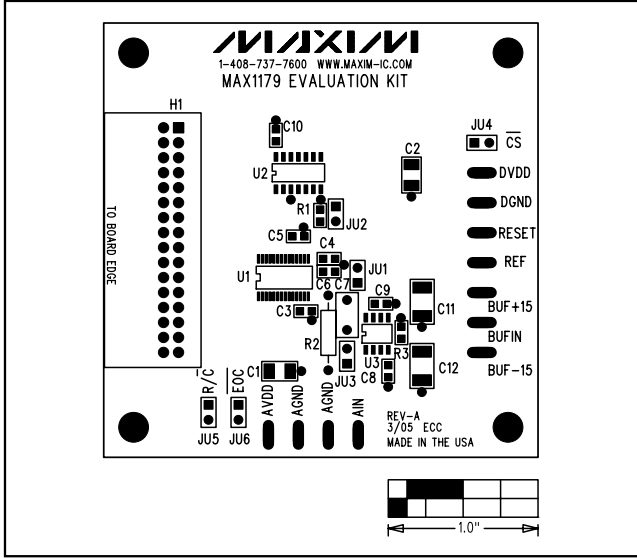

Figure 2. MAX1179 EV Kit Component Placement Guide—Component Side
- 4) Configure the pattern generator to produce the appropriate read/convert ( $R/\overline{C}$ ) and conversion start ( $\overline{CS}$ ) waveforms. Refer to Figure 2 in the MAX1179 data sheet.